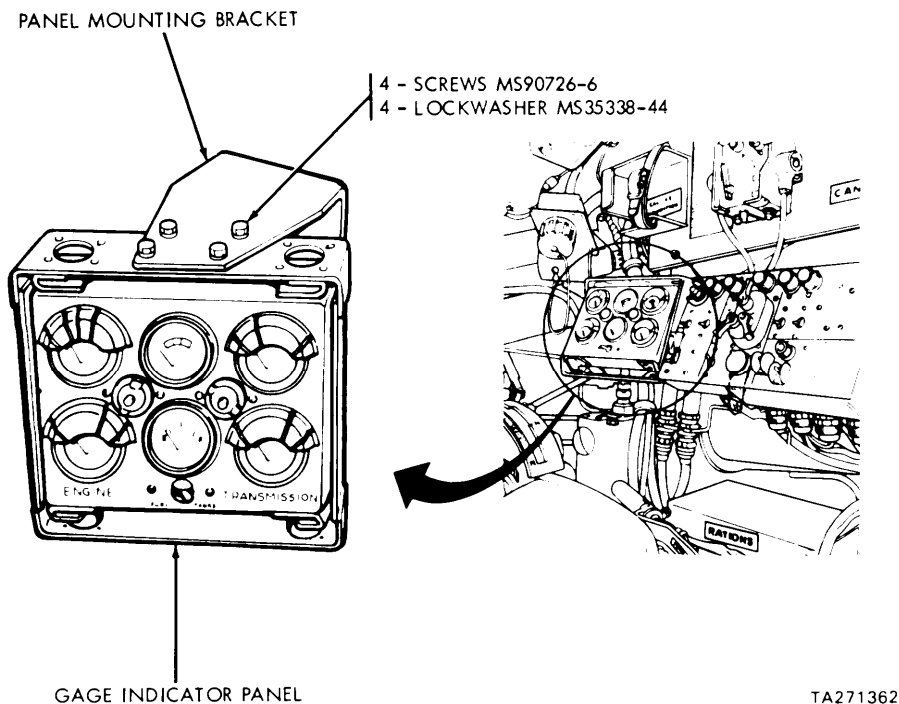

Figure 27. Removing Gage Indicator Panel
(1) Inside driver's compartment, remove and discard four screws MS90726-6 and lockwashers MS35338-44 securing gage indicator panel to its mounting bracket (figure 27).
- (1) Assembly smoke generator switch bracket (refer to section II).
- (2) Remove and discard the four screws MS90726-6 and lockwashers MS35338-44 that secure the gage indicator panel to its mount (refer to figure 27).